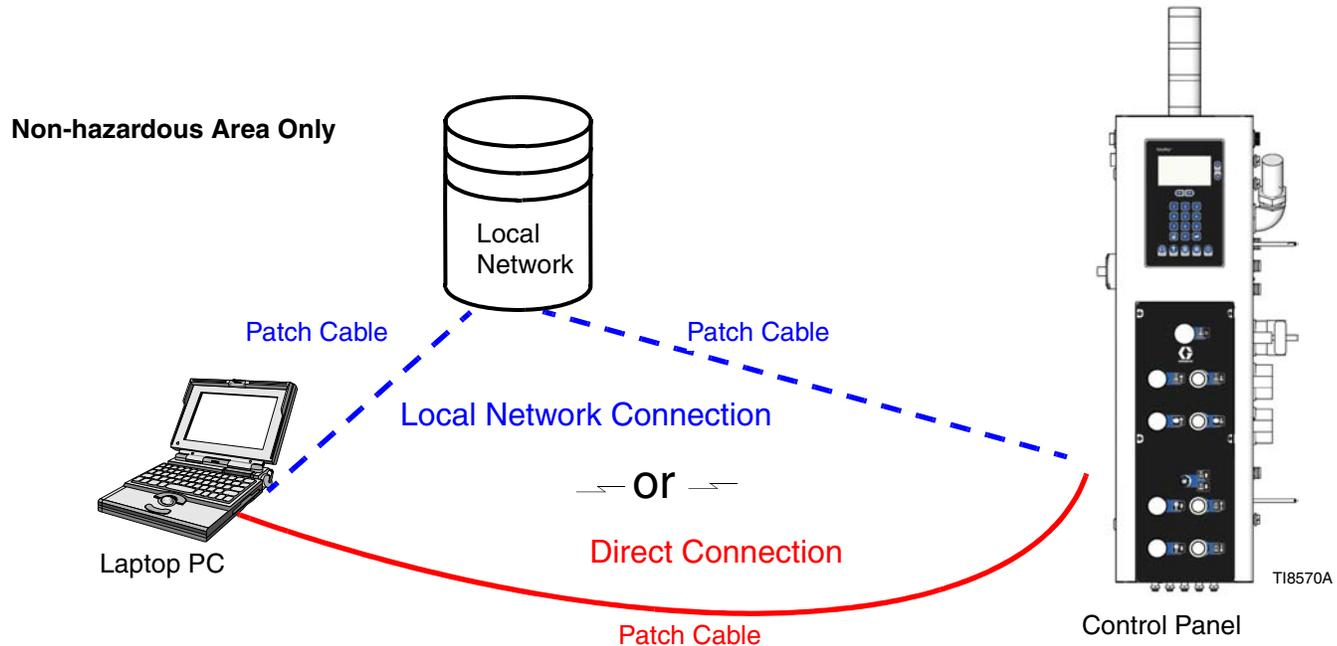
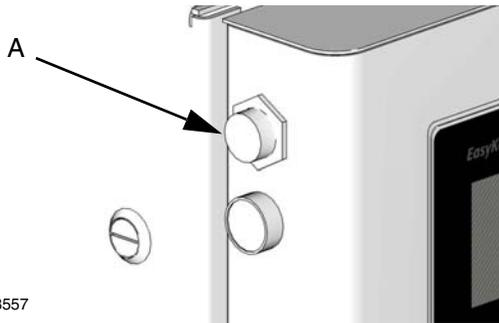

FIG. 29 Network Selection
FIG. 30 EasyKey Web Connection
- **Local Network Connection** (most common). Patch cable from the local network plugs into the unit Web Interface connection. See FIG. 29 and FIG. 30, and page 66.
- **Direct Connection** to the unit crossover cable from the PC plugs into the unit Web Interface connection. See FIG. 29 and page 69.
Patch cables are used to connect each unit to the local network and to the Web connection (A) on the EasyKey panel. See FIG. 30.